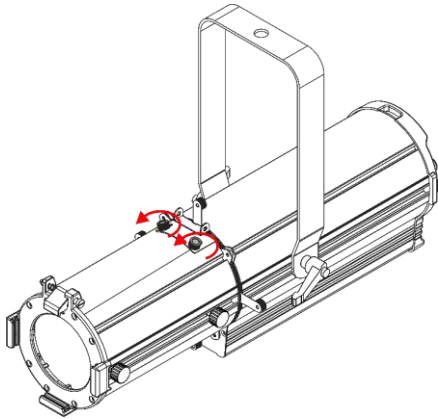

Fig. 16
- 01) Loosen the two **cover plate thumbscrews (10)** (see Fig. 16). **Do not remove the thumbscrews.**